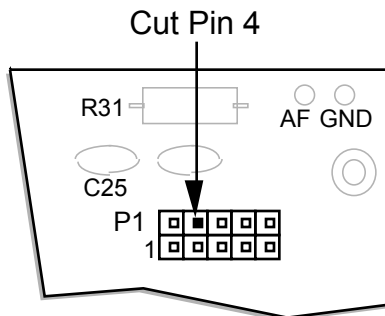

Figure 10
- Cut pin 4 of P1 on the KPA100 board (see Figure 10).